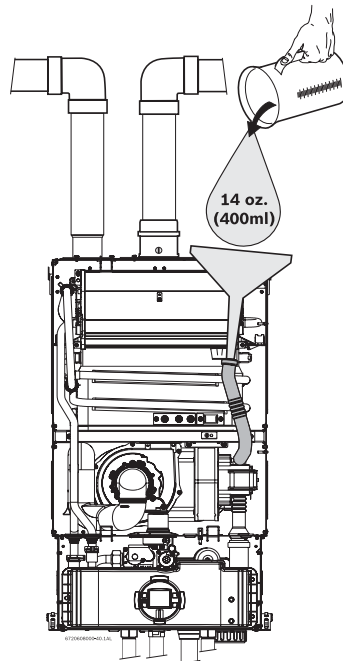

Fig. 20 Filling the condensate trap after installation
- Fill the condensate trap by pouring approx.14 oz. (400ml) of water into the top of the drain tube. To avoid damage to the appliance use a funnel in this operation, see Fig. 20, page 14.